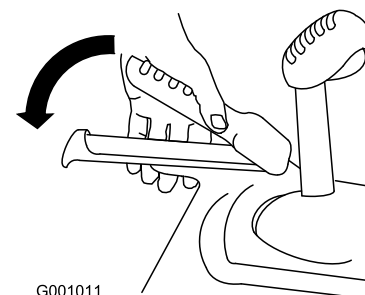

Figure 18
1. To engage the traction drive, squeeze the left (traction) lever to the handgrip (Figure 18).